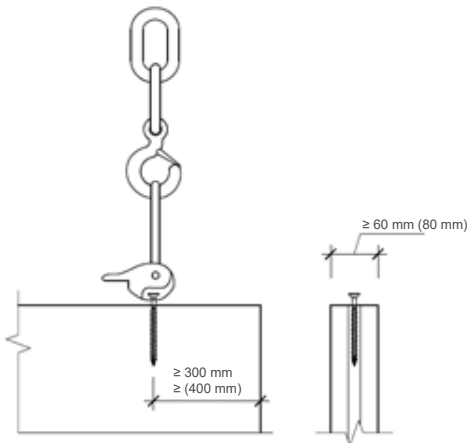

Figure 1: exclusively axial screw loading through orthogonal lifting valid for d = 12 mm (d = 16 mm)
- d) distance between the screw axis and the end of the wall of at least 25*d (compare Figure 1 and 2)
- f) only axial load for the RAPID® T-Lift screw (compare Figure 1)